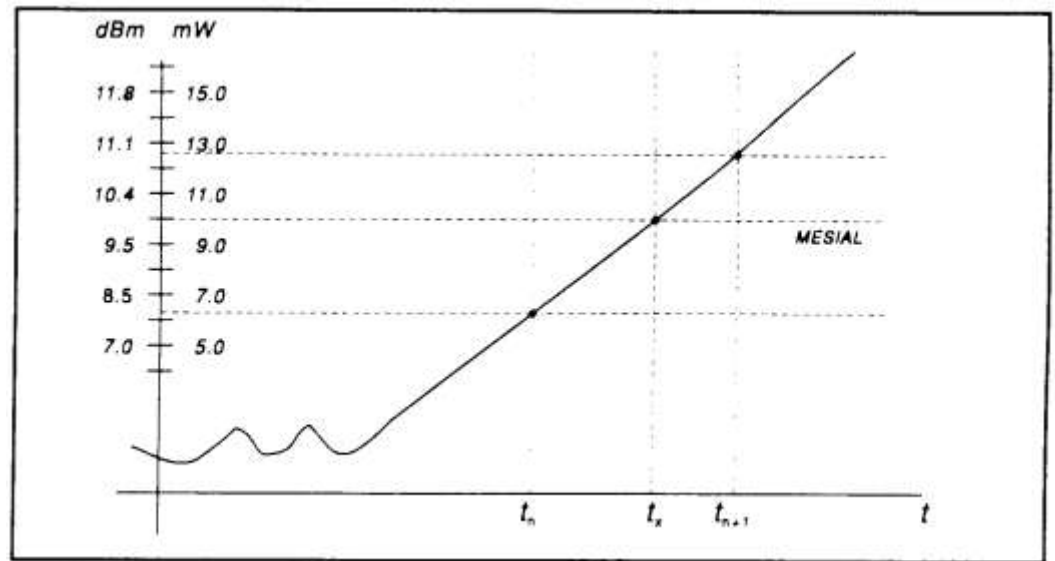

Figure 6-6.
8. The process follows a similar procedure to locate the top amplitude (top line). The power range for the top histogram is 5 dB and the resolution is 0.02 dB, resulting in 250 levels. The level-crossing histogram is computed for a single pulse, using the samples which exceed the transition threshold. If only one transition exists in the buffer (Types 2 and 3), the process uses the samples that lie between the edge of the screen and the transition threshold (See Figure 6-6). For a level to be designated the top amplitude, the number of crossings of that level must be at least  $1 \times 16$  the number of pixels in the pulse width; otherwise, the peak value is designated the top amplitude.
10. The process determines horizontal position, in pixels, at which the signal crosses the mesial value. This is done to a resolution of 0.1 pixel, or 1/5000 of the screen width. Ordinarily, the sample values do not fall precisely on the mesial line, and it is necessary to interpolate between the two nearest samples to determine where the mesial crossing occurred. This process is demonstrated in the example above (Figure 6-6):